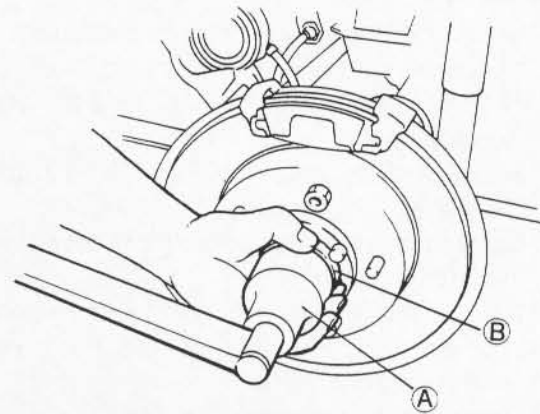

Fig. 17-5-23 Special Tool A (Front Wheel Bearing Nut Socket Wrench 09941-58010)
- 1) With wheel hub turned by hand, tighten wheel bearing nut by a torque of 80 N·m (8.0 kg·m, 57.5 lb·ft) using special tools A and B. Next, loosen the nut until the above torque is reduced to 0 N·m (0 kg·m). Then, retighten the nut by the torque within a range of 10 to 15 N·m (1.0 to 1.5 kg·m 7.5 to 10.5 lb·ft) until 4 screw holes opened on the nut correspond with the 4 screw holes opened on the lock washer assembled next to the nut respectively. (See Figs. 17-5-23 and 17-5-24.)
- 2) Tighten lock washer securely with 4 pieces of the screws ③ to lock wheel bearing nut.